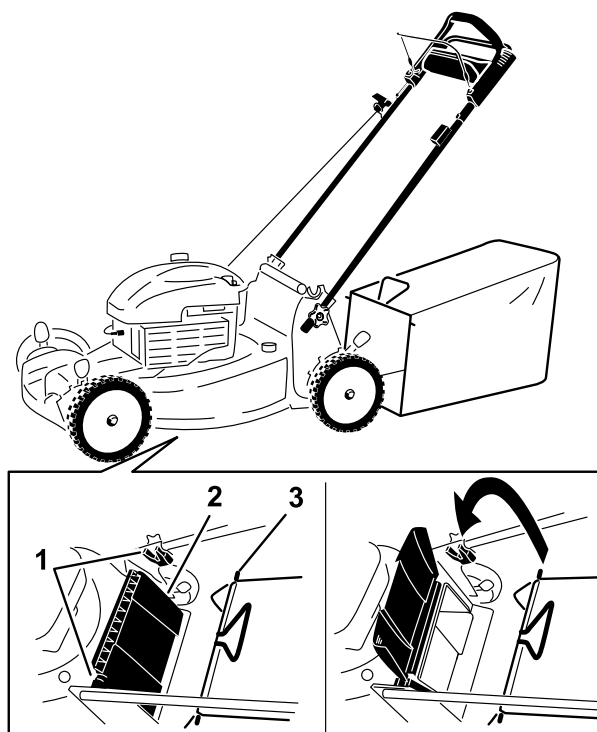

Figure 14
1. Raise and hold up the rear deflector (Figure 14).
2. Install the grass bag, ensuring that the pins on the bag rest in the notches on the handle (Figure 14).